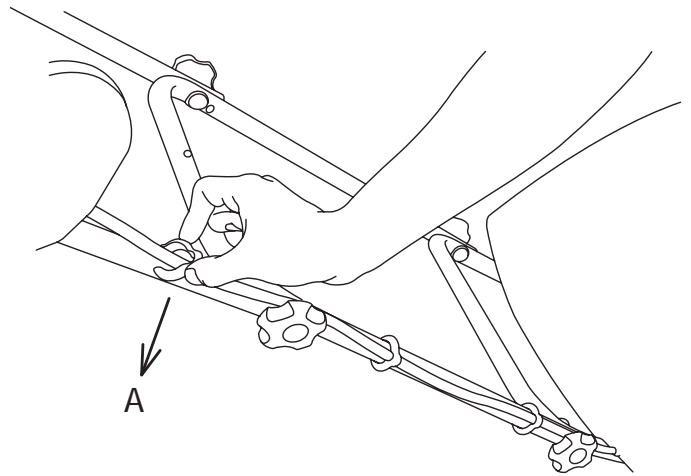

Figure 9
4. Locate the three cable clips in the parts bag. Secure the power cord to the frame of the unit by clipping them onto the frame at evenly spaced intervals (Fig. 9).